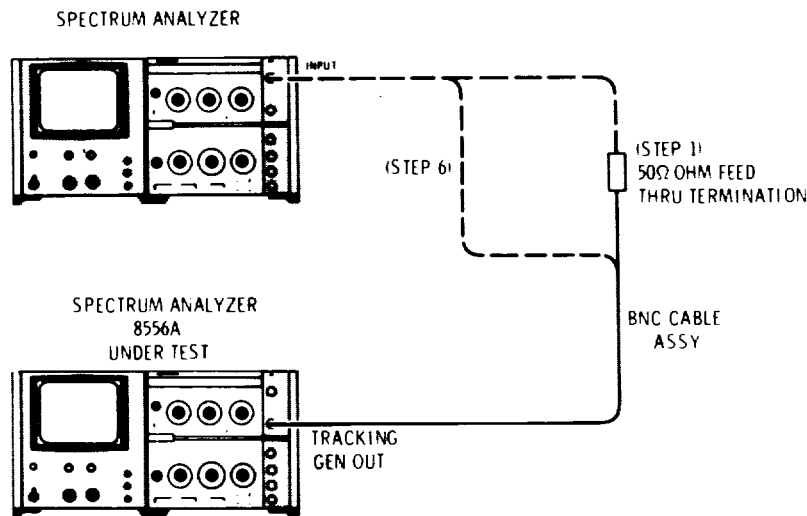

Figure 4-14. Tracking Generator Spectral Purity Test Setup
1. Connect equipment as shown in Figure 4-14, connecting TRACKING GEN OUT of 8556A under test to INPUT of separate Spectrum Analyzer; connect through 50 Ohm Feed Thru Termination.